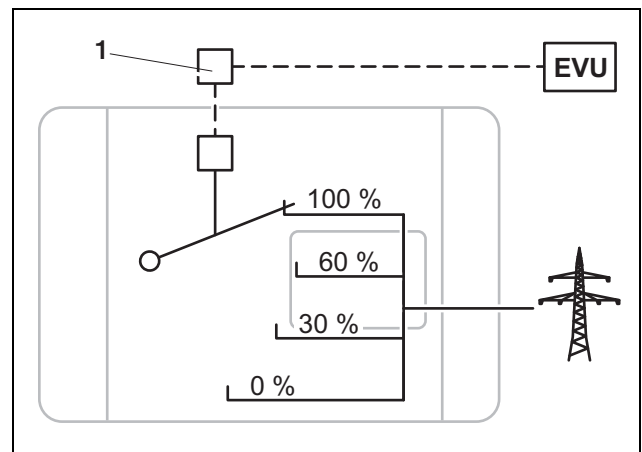

Fig. 7: Active power control with a ripple control signal receiver
The active power of the PIKO inverter can be controlled directly by the energy supply company via a ripple control signal receiver (1). With this technology, the generated power can be regulated at four levels (see Fig.7).